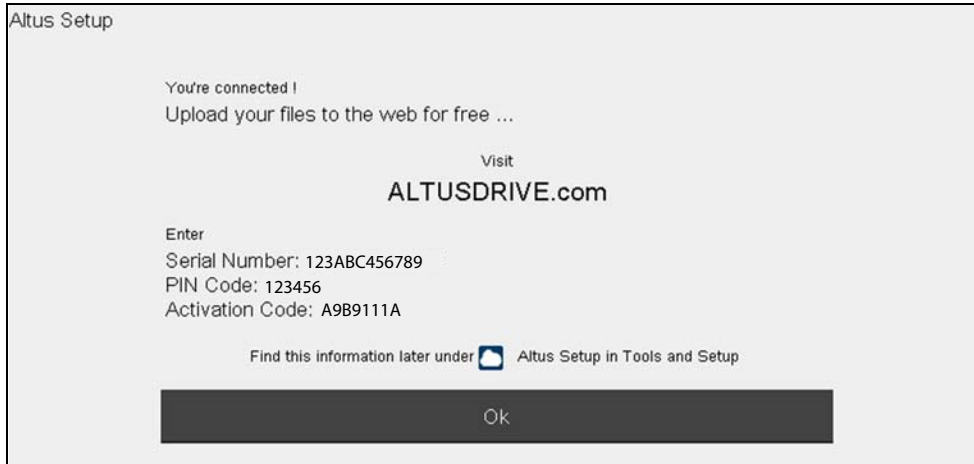

Figure 14-1
- Write down the Serial Number, PIN and Code that are displayed when the device connects to the Wi-Fi network (Figure 14-1), or leave the screen displayed. Registration information can also be found in the Tools menu, see Snap-on Cloud Setup Information Screen on page 106.
The PIN and Code numbers will change each time you view the Setup screen (Figure 14-1). This is normal, any displayed set of PIN and Code numbers may be used to register.